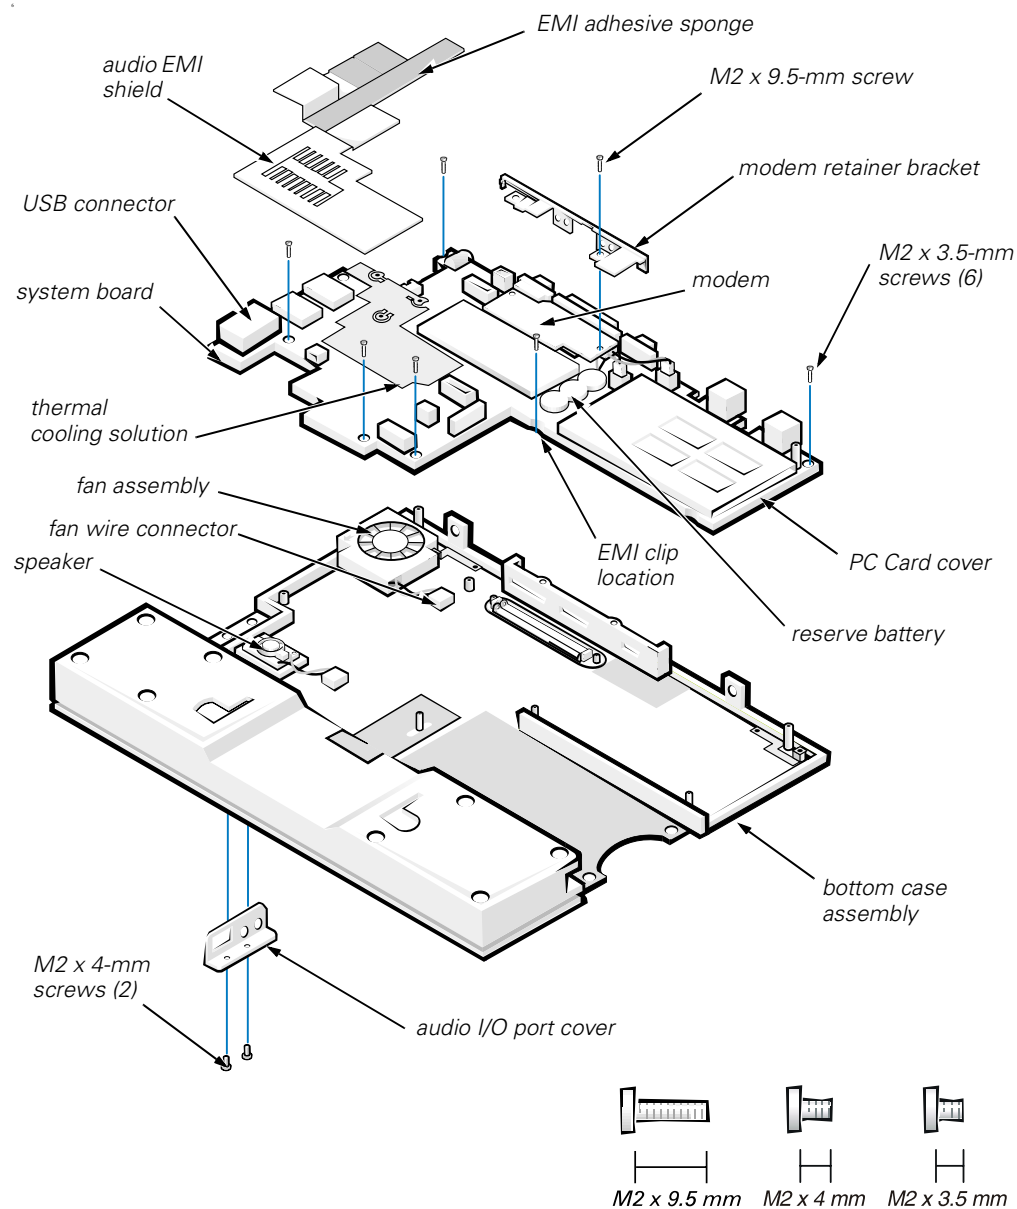

Figure 22. System Board Assembly Removal
7. Peel up the EMI adhesive sponge that connects the audio EMI shield to the thermal cooling solution (see Figure 22).